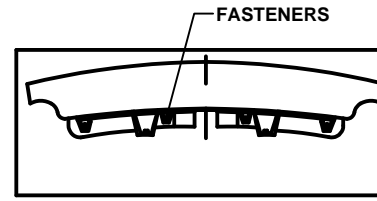

FIGURE 1
- a. Remove (2) fasteners from the rear of the vehicle. (See Figure 1)